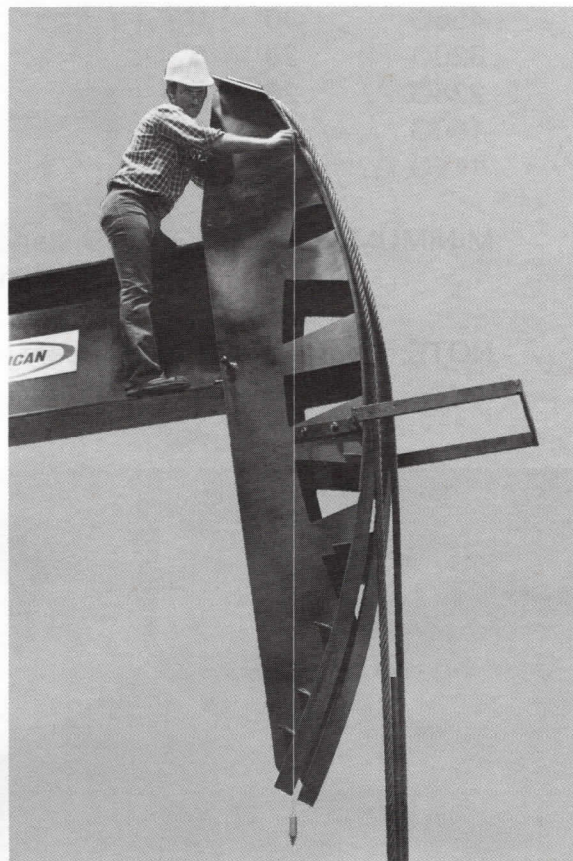

Fig. 21
32. Check to see if wire lines run down center of runners. Adjust horsehead if necessary, Fig. 21, using side adjusting screws to align horsehead vertically. Tighten striker plate bolts then loosen side adjusting screws.